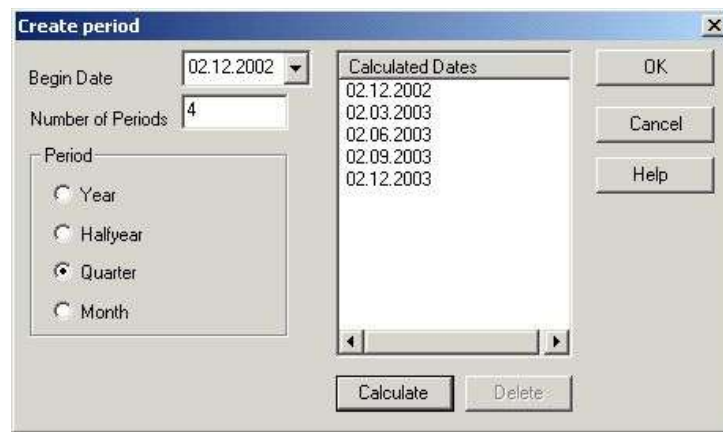

Figure 23: Dialog - Editing Intervals
- 1) Click **Periods** in the **Extended Properties** dialog. The dialog for creating periods opens. *Please refer to the Figure 23.*
- 4) After all of the required information for intervals has been provided, click **Calculate**. The result is displayed according to the information provided. *Please refer to the Figure 23.*